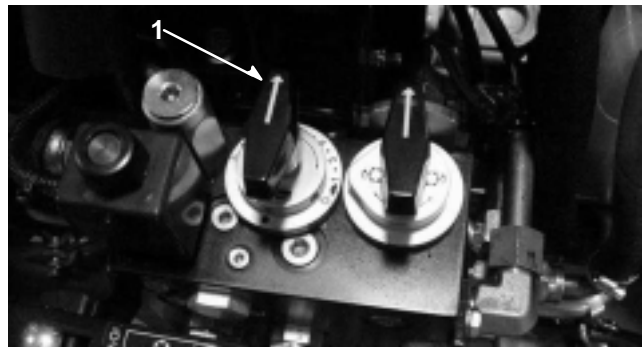

Figure 37
2. Turn the reel speed control knob (Fig. 37) to the number setting determined in step 1.